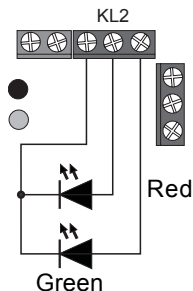

Figure 10
- The LEDs are connected as shown in figure 10. Make sure that you connect the red and green LEDs correctly, so that they light up like the LEDs that are already built-in.